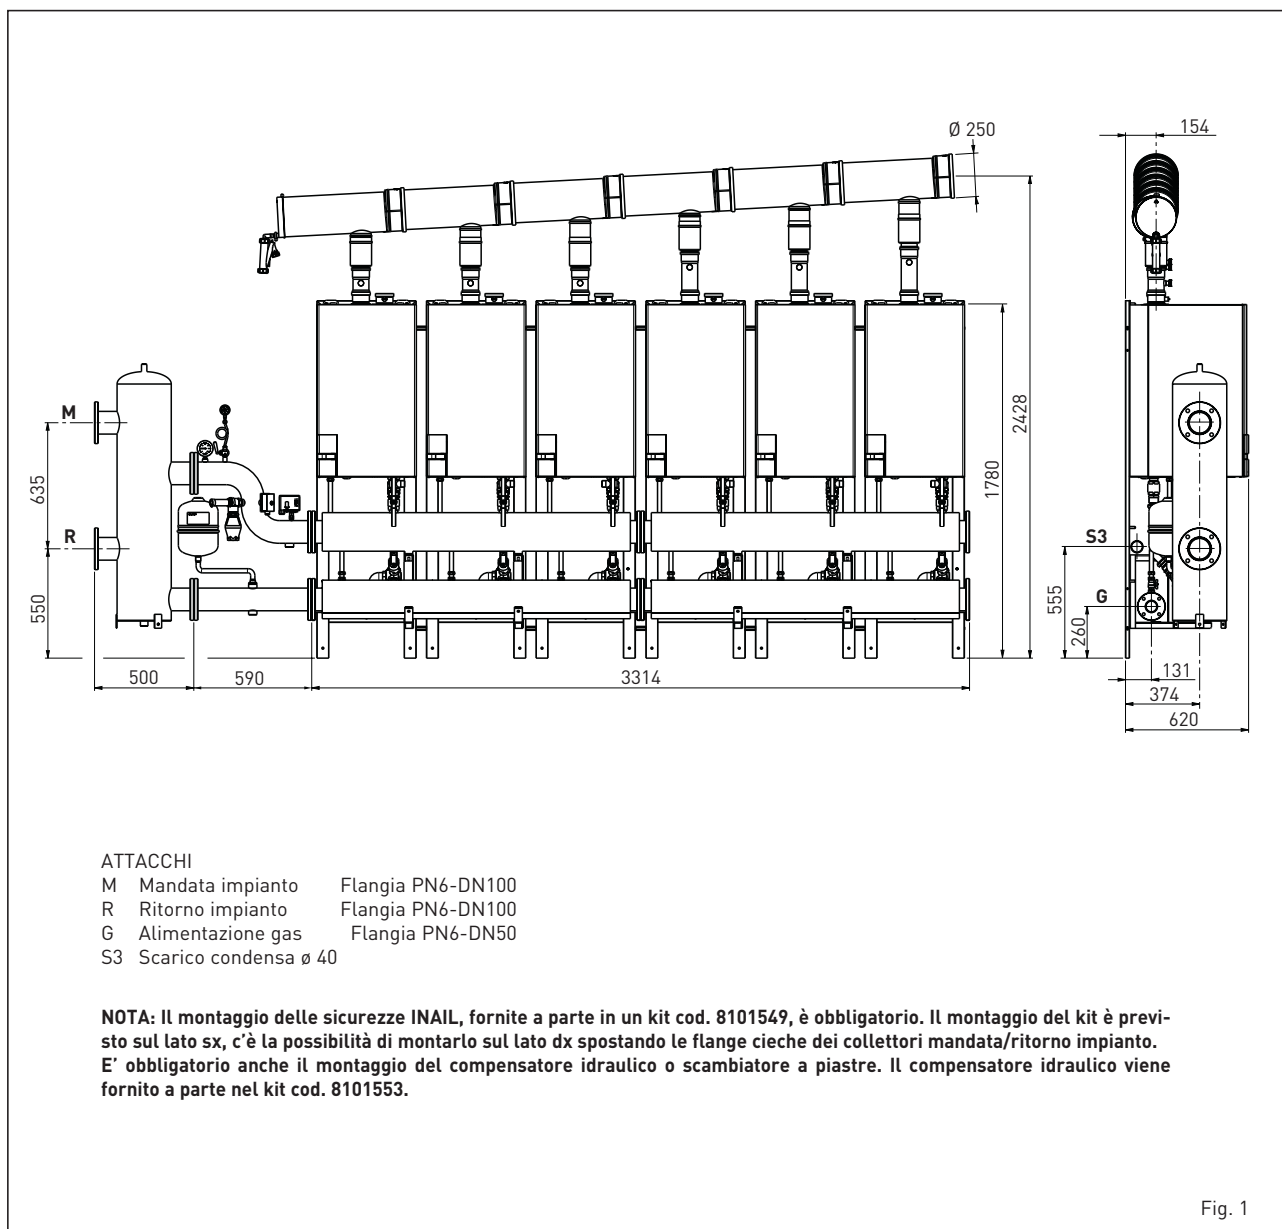

Fig. 1
1.2 DIMENSIONI E ATTACCHI (Fig. 1)